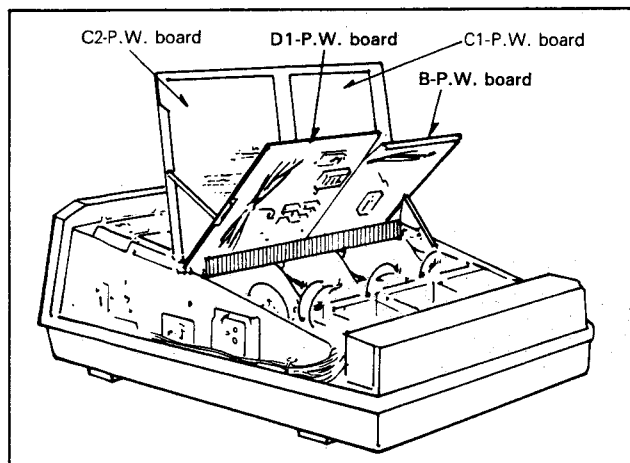

Fig. 6
- 4) Then open the B-P.W. board as shown in Fig. 6.
- 6) Then open the D1-P.W. board as shown in Fig. 6.